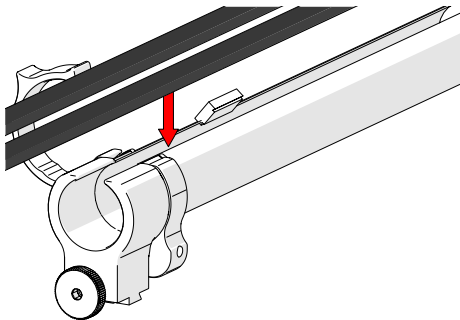

Fig. 72 - Insert cables and hoses
1. Open the cable management. Begin at the clamp end and start placing the cabling in the tube (Fig. 72).